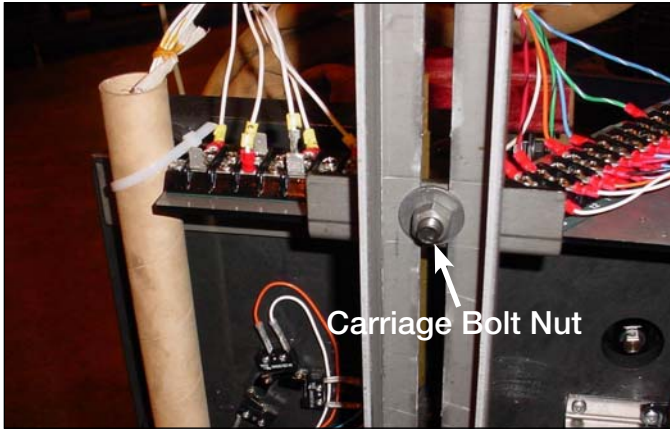

Figure 5.
- Use a 9/16 inch socket and ratchet to loosen and remove the nut and carriage bolt fastening the tap changer bracket to the regulator side channel. See Figure 5